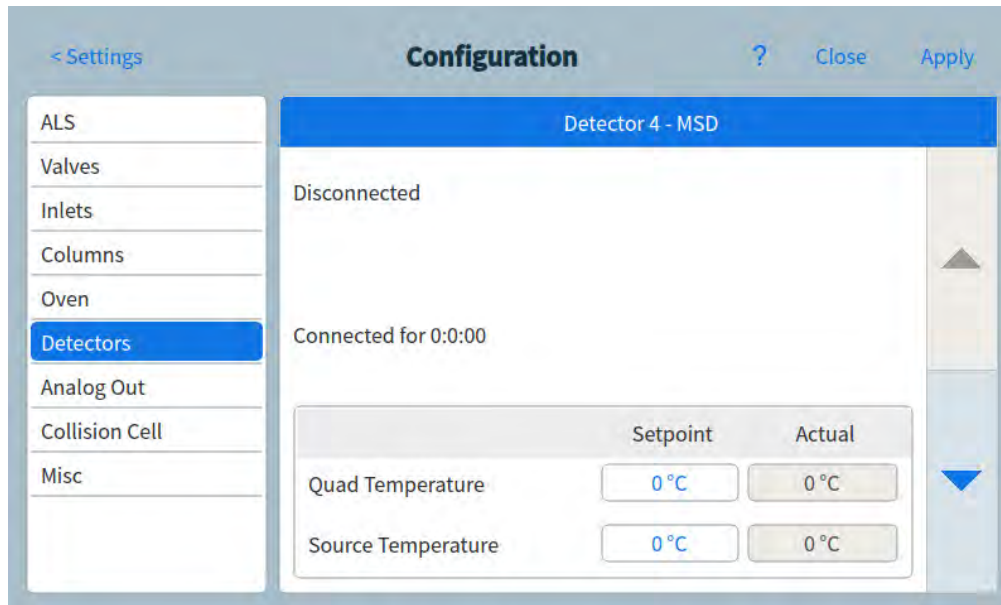

Figure 64. Detector MSD settings page
- 1 Select **Settings > Configuration > Detectors**. See **Figure 64**.